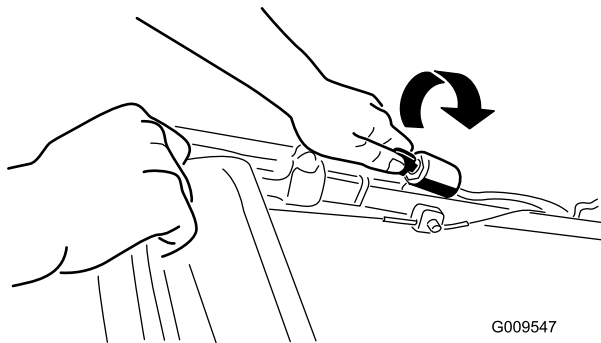
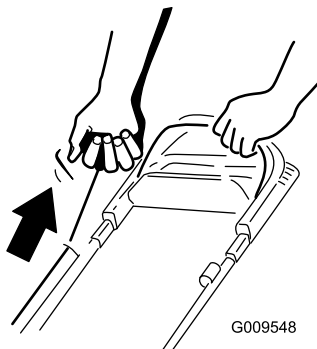

Figure 12
Figure 13
2. Turn the ignition key (Figure 12) (electric-start models only) or pull the recoil-start handle (Figure 13).
Note: When you pull the recoil-start handle, pull it lightly until you feel resistance, then pull it sharply (Figure 13). Allow the rope to return to the handle slowly.